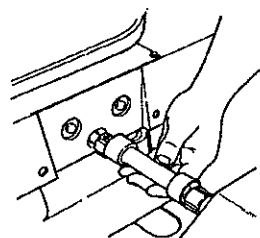

Fig.D-2
5. Place the power coupler (71) onto the Scroll Saw's drive shaft hub, as in Fig.D-2.